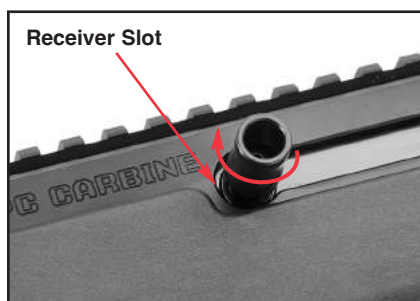

Figure 17.
3. With the bolt closed, align the conical base of the charging handle with the corresponding countersink on the bolt by passing through the charging handle slot of the receiver (see Figure 17). Tighten the cap screw to 65 inch-pounds to ensure the handle is secure. The charging handle torque should be verified every 1,000 rounds or whenever the charging handle is removed and reinstalled.